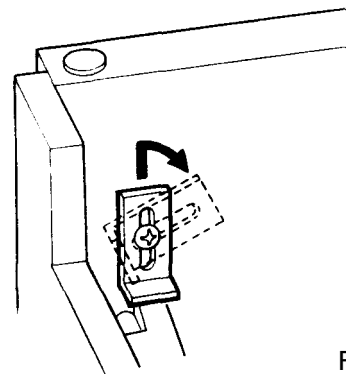

Figure 1.
- 2) Loosen the screws and securing fasteners on the inside of the left Side Board. (See Figure 1.)